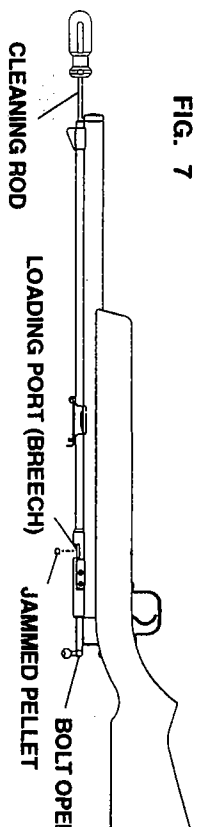

FIG. 7
- With bolt in the open position, insert a cleaning rod (cleaning rods can be ordered from factory) into the muzzle end of the barrel and gently push the pellet into the pellet loading port (forward of the bolt). (Fig. 7). Don't try to force the pellet again.